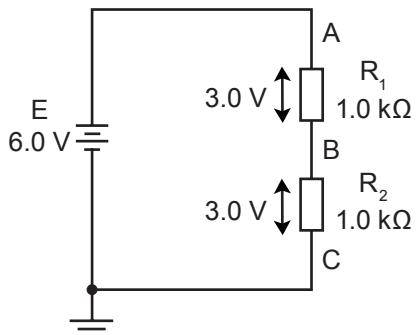
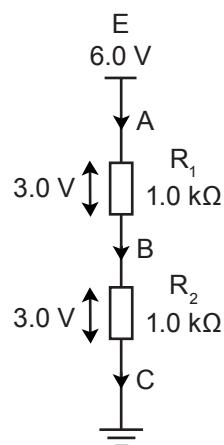

Figure 2.20 A series circuit with a ground reference voltage
Figure 2.21 A series circuit with ground and positive reference voltages
In Figure 2.20, we have assigned the negative terminal of the battery to be the reference voltage. This is indicated by the symbol $\underline{\underline{}}\text{ } \underline{\underline{}}$. This symbol is called the '**ground**', and it represents a voltage of 0 V. The voltage at other points of the circuit is now taken with reference to this point. If the negative terminal of the battery is the point with the lowest voltage in the circuit, it is usually assigned to be the ground.
The voltages at points A, B and C of the circuit in Figure 2.20 can now be described respectively as:
We can replace the positive terminal of the battery with a reference voltage of 6.0 V using the symbol \top and redraw the circuit as shown in Figure 2.21.
Although Figure 2.20 and Figure 2.21 look different, they are electrically the same. In other words, the electrical circuit connected will be the same no matter which diagram is used. In Figure 2.21, the current flows from the positive reference voltage (E) through R_1 and R_2 to the ground.
The voltages at points A, B and C of the circuit in Figure 2.21 are also described respectively as: